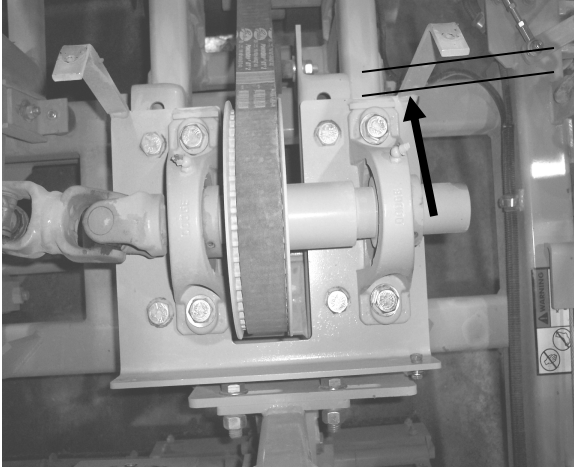

Figure 6—Distance Shown Should Be 1-1/2 (38.1 mm)
7. On the left side, slide the head forward to obtain 1-1/2 in. (38.1) mm measured as shown in **Figure 6**. Make sure the head is positioned evenly in the frame and securely tighten the mounting bolts.